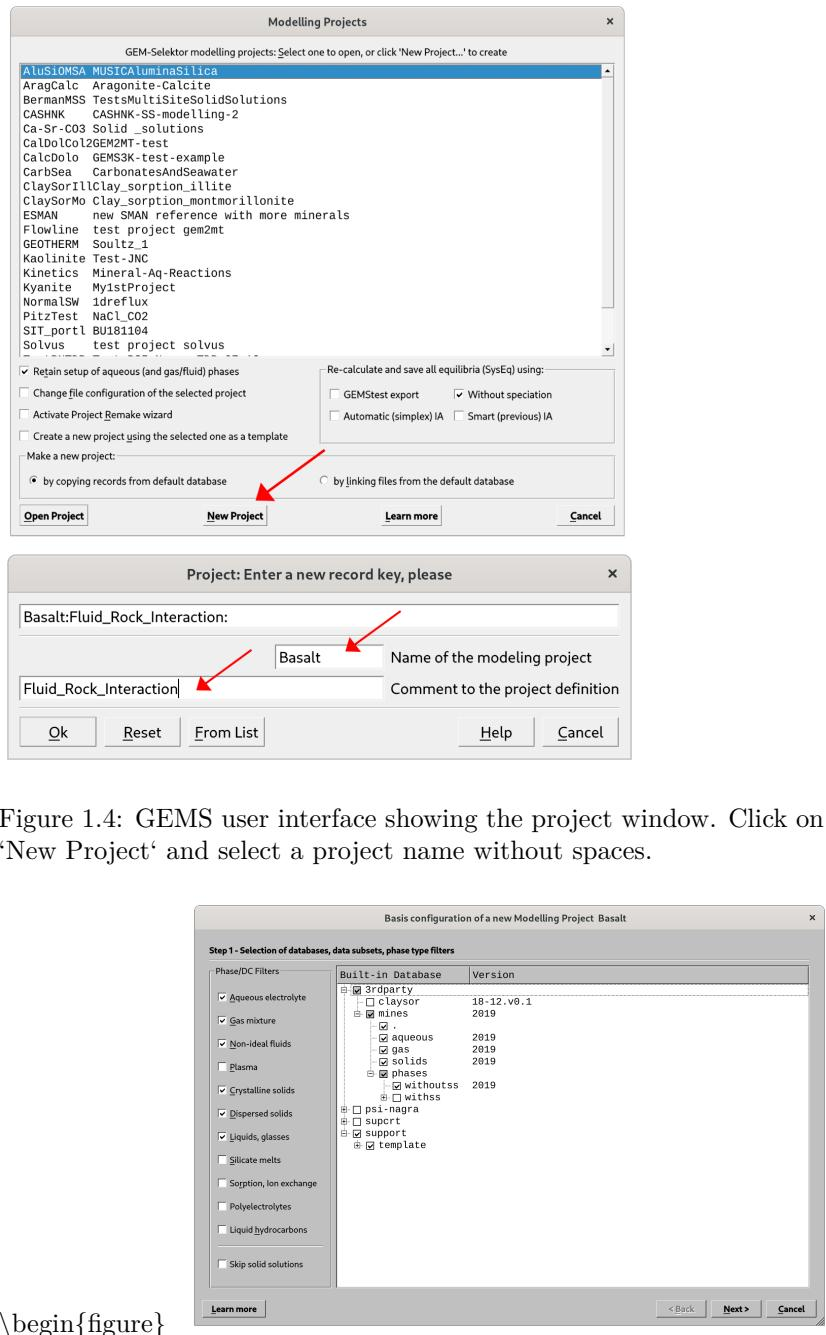

Figure 1.4: GEMS user interface showing the project window. Click on make a ‘New Project’ and select a project name without spaces.
- Open GEMS and click **New Project** in the Modeling Projects window. Give a name to your project (no spaces). The user interface is shown in Figure 1.4.